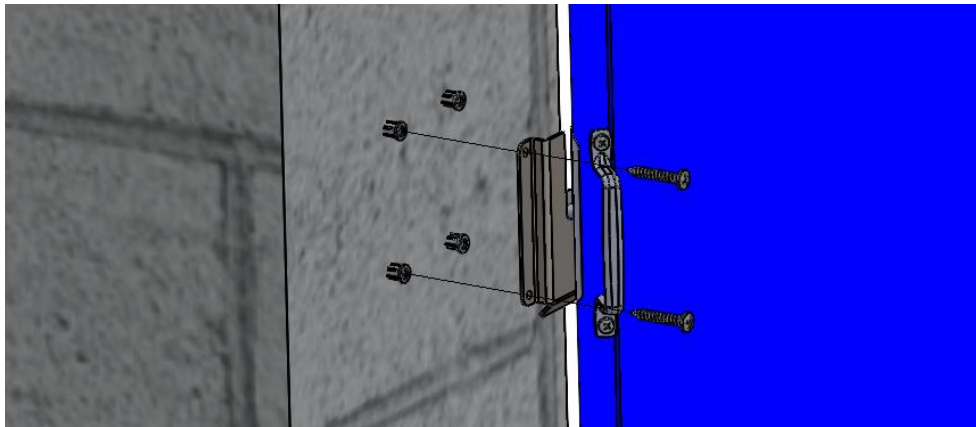

Figure 4 Mount Slide Lock
1. To mount the Slide Lock to the wall, slip the Slide Mount Bracket fully onto the Slide Mount Stud, then trace the hole locations onto the door jamb. Screws and anchors are provided. (Figure 4 Mount Slide Lock)